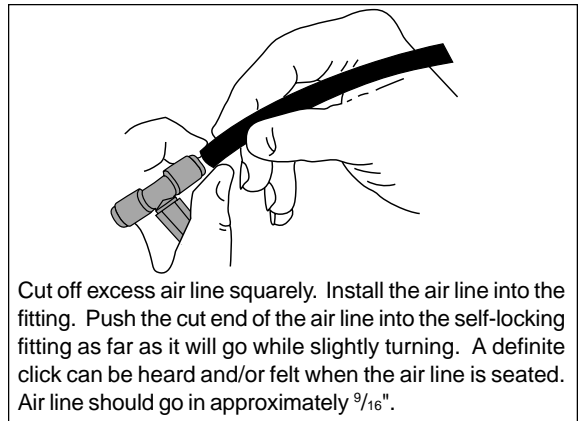

Figure 8
3. Use a standard tube cutter, a razor blade, or very sharp knife to cut the air line already installed between each air cylinder and inflation valve. A clean square cut will ensure against leaks. Install a tee (Figure 8). Follow this procedure for air line leading to the other air spring and inflation valve.
9. Cut the air line and install a tee (Figure 8).
11. Route air line to tee fitting installed in one of the ports in the solenoids. Attach air line as shown in Figure 8.
12. Use sufficient air line to connect the to both solenoids. Caution should be used not to kink air line. Attach air line as shown in Figure 8.